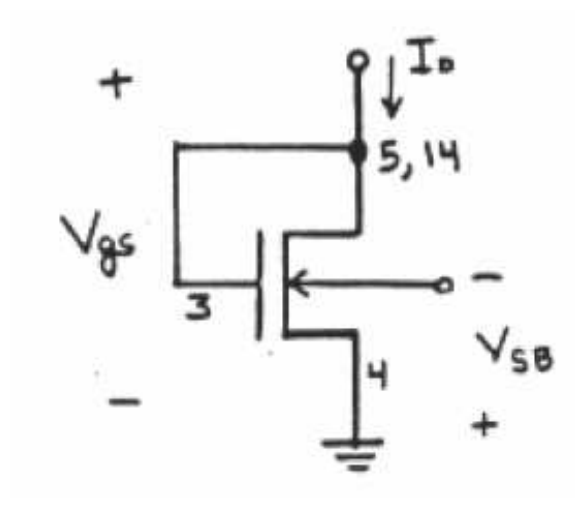

Figure 5: Diode-connected NMOS transistor.
**Part 8 (5 points)** Use the curve tracer to plot  $I_D$  vs.  $V_{GS}$  for the “diode-connected” NMOS transistor as shown in Figure 5. Sketch at least three curves in your notebook for  $0 < V_{GS} < 10$  V with  $V_{BS} = 0$  V. **If the curve tracer isn't working, use a multimeter to measure the appropriate voltages and currents at several bias points to sketch your curves.**